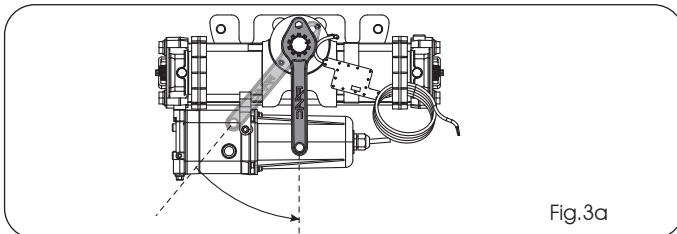

Fig.3a
- 2a) Turn the pinion with the supplied wrench counterclockwise by about 20° as shown in Fig.3a.